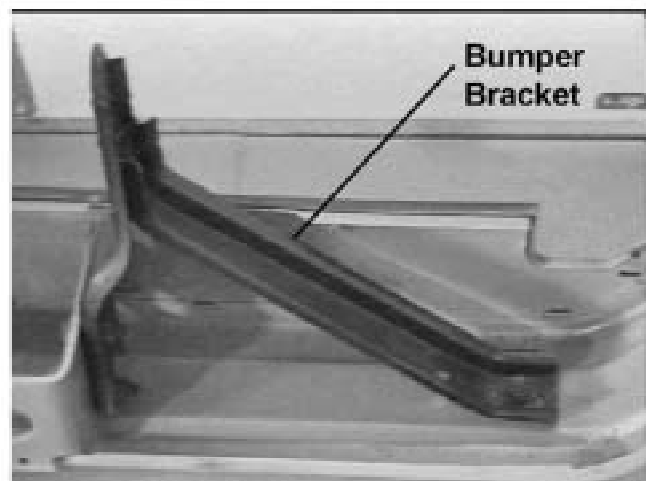

Figure 3
1. Loosen bumper mounting brackets at bumper. See Figure 3.